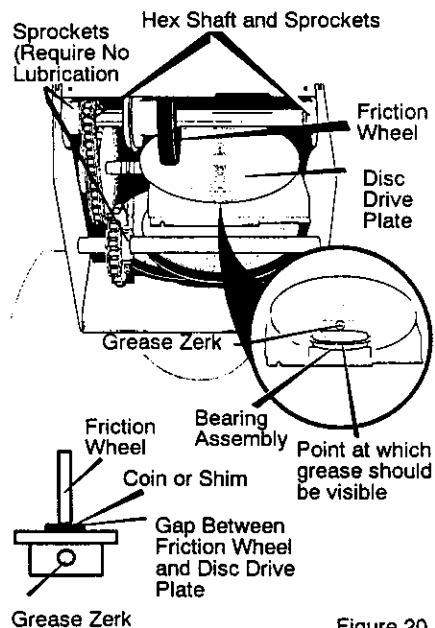

Figure 20
4. Turn **disc drive plate** clockwise by hand until **grease zerk** is clearly visible at front center. See Figure 20.
1. **Hex Shaft and Sprockets** – **Hex shaft and sprockets** require no lubrication. All bearings and bushings are lifetime lubricated and require no maintenance. See Figure 20.